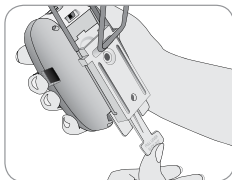

Fig. 12
1. Slide alarm onto bracket from top down until it is firmly in place (Fig. 12).
2. Slide alarm onto bracket from top down until it is firmly in place (Fig. 12 page 24).